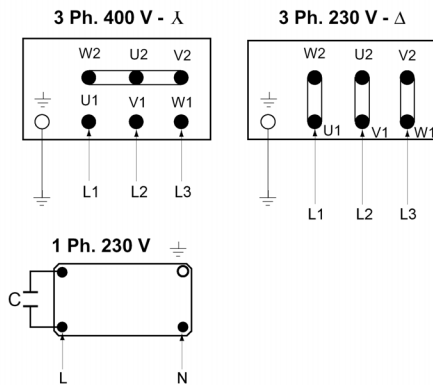

Fig. 3: Mains connection
- For mains connection see also Fig. 3.